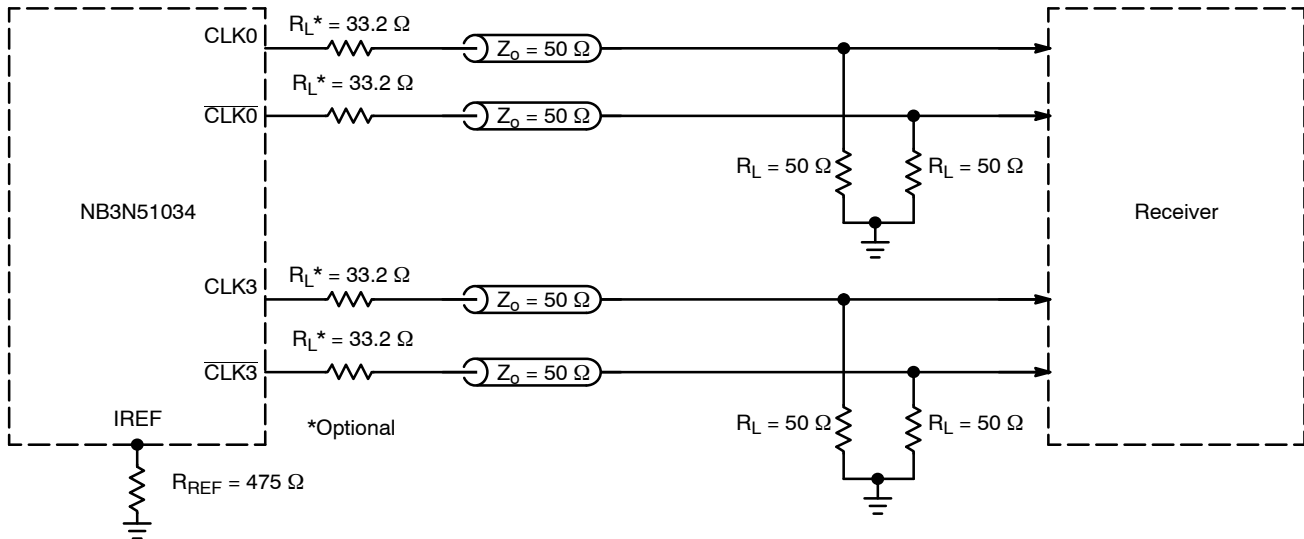
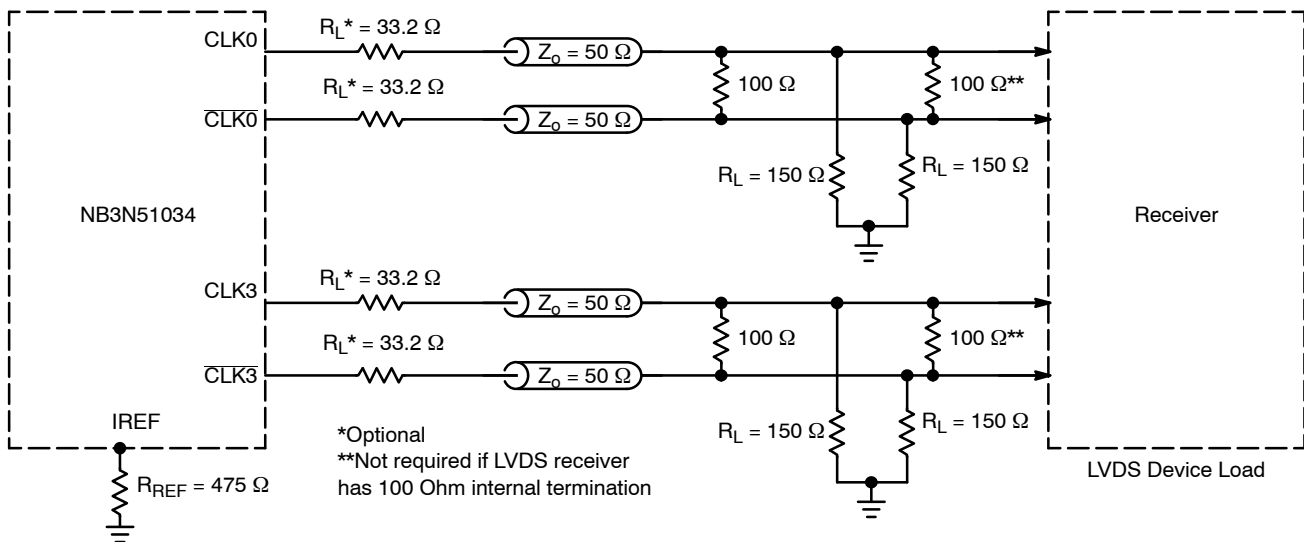

Figure 7. Typical Termination for HCSL Output Driver and Device Evaluation
Figure 8. Typical Termination for LVDS Device Load
- VDDXD and VDDODA power pins must be shorted to power supply voltage V_{DD} and GNDXD and GNDODA ground pins must be shorted to power supply ground GND. Measurement taken with outputs terminated with R_S = 33.2 Ω, R_L = 50 Ω, with test load capacitance of 2 pF and current biasing resistor set at 475 Ω. See Figure 7. Guaranteed by characterization.
12. VDDXD and VDDODA power pins must be shorted to power supply voltage V_{DD} and GNDXD and GNDODA ground pins must be shorted to power supply ground GND. Measurement taken from differential output on single–ended channel terminated with $R_S = 33.2 \Omega$, $R_L = 50 \Omega$, with test load capacitance of 2 pF and current biasing resistor set at 475 Ω . See Figure 7. Guaranteed by characterization.
19. VDDXD and VDDODA power pins must be shorted to power supply voltage V_{DD} and GNDXD and GNDODA ground pins must be shorted to power supply ground GND. Measurement taken from differential output on single-ended channel terminated with $R_S = 33.2\ \Omega$, $R_L = 50\ \Omega$, with test load capacitance of 2 pF and current biasing resistor set at 475 Ω . See Figure 7. This parameter is guaranteed by characterization. Not tested in production.
The outputs can be terminated to drive HCSL receiver (see Figure 7) or LVDS receiver (see Figure 8). HCSL output interface requires $49.9\ \Omega$ termination resistors to GND for generating the output levels. LVDS output interface may not